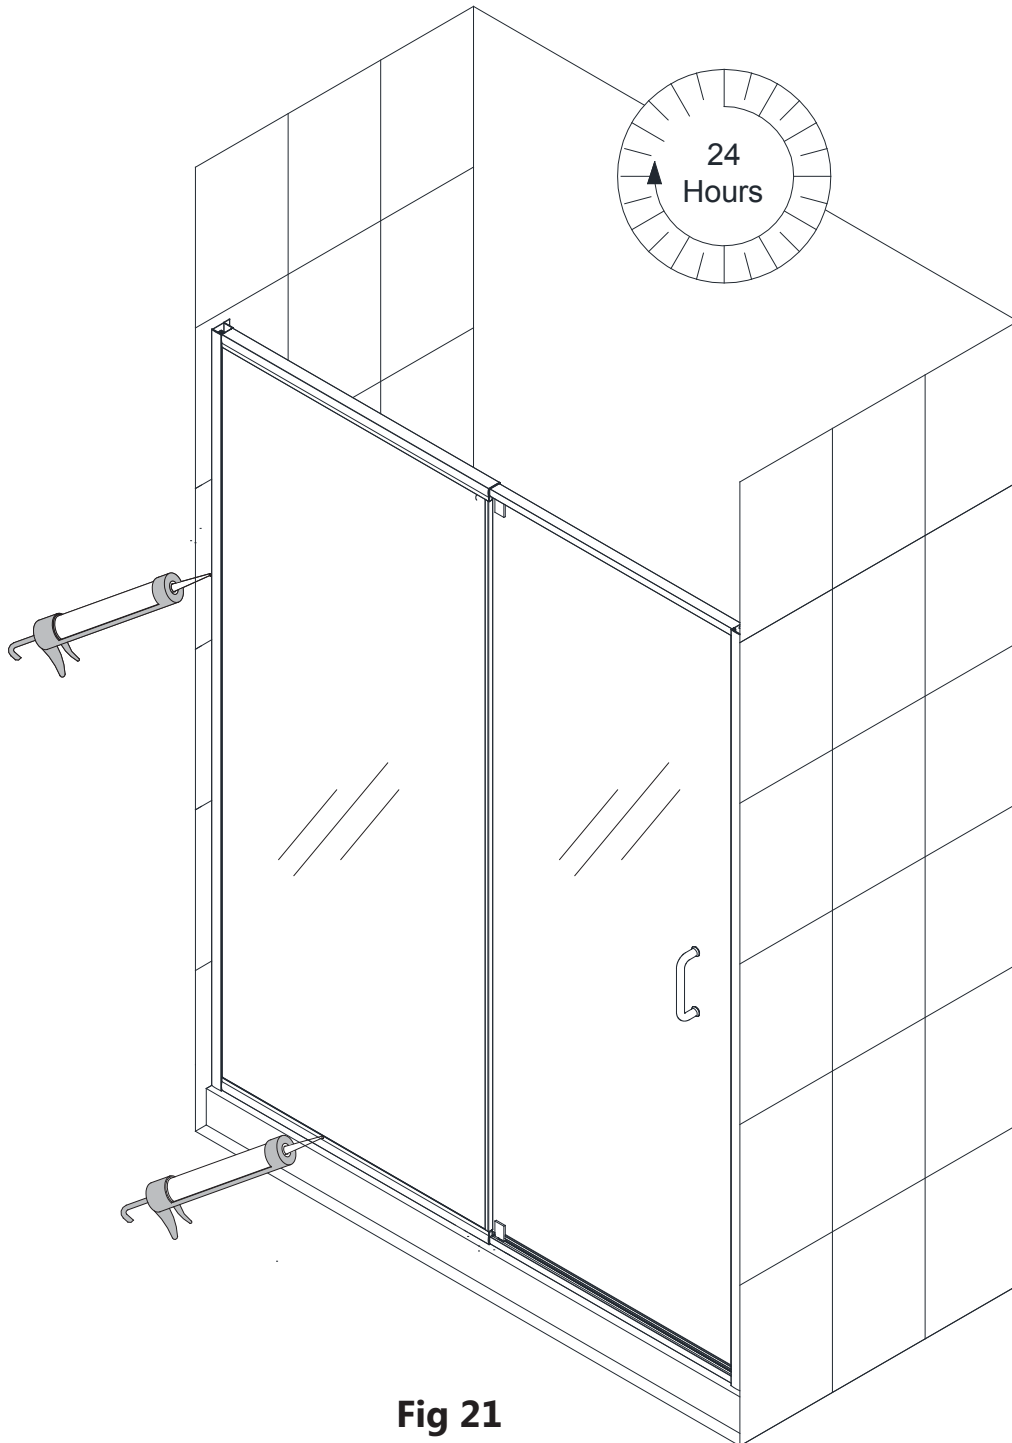

Fig 21
21. Apply a good quality mildew-resistant silicone around the exterior perimeter along both walls and the threshold, as well as the outside of the telescopic joint. **(Fig 21)**